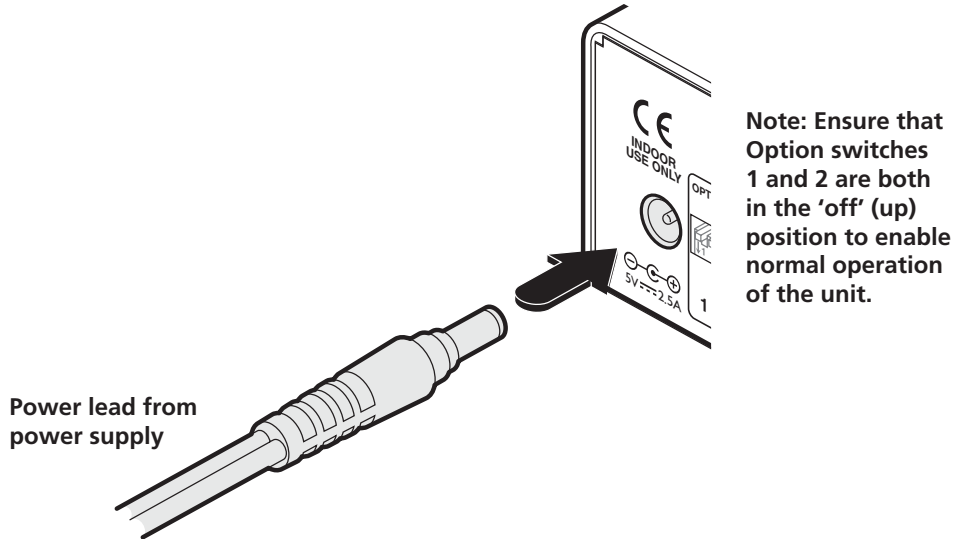

Figure 3-7. Connect the power supply to the rear panel power socket.
- 1 Attach the output lead from the supplied power adapter to the 5V socket on the rear panel of the unit. See Figure 3-7.